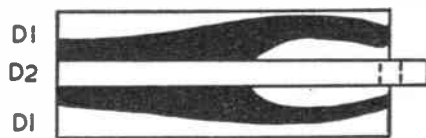
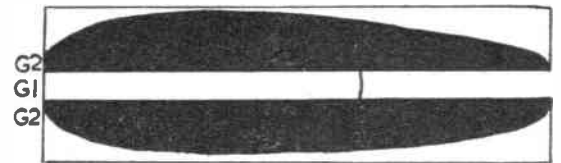

Fig. 2—Assembly of the arms
Fig. 3—Assembly of the legs
The course to be adopted can be readily followed if the construction of one simple part, say the upper arm (C), is considered. Two sections of pattern (C1) are cut out in wood $\frac{3}{4}$ ins. thick, a fretsaw being used. Similarly, pattern (C2) is cut in $\frac{1}{4}$ in. wood. The three portions are glued, assembled and clamped as seen in Fig. 2. When the glue is thoroughly dry, the clamps are removed and the composite block is shaped using chisel, spokeshave, file or any shaping tool, and finally finished with glasspaper.
Similarly the lower arms (Fig. 2), and the legs (Fig. 3), are cut out, glued and shaped. The body pieces are treated in